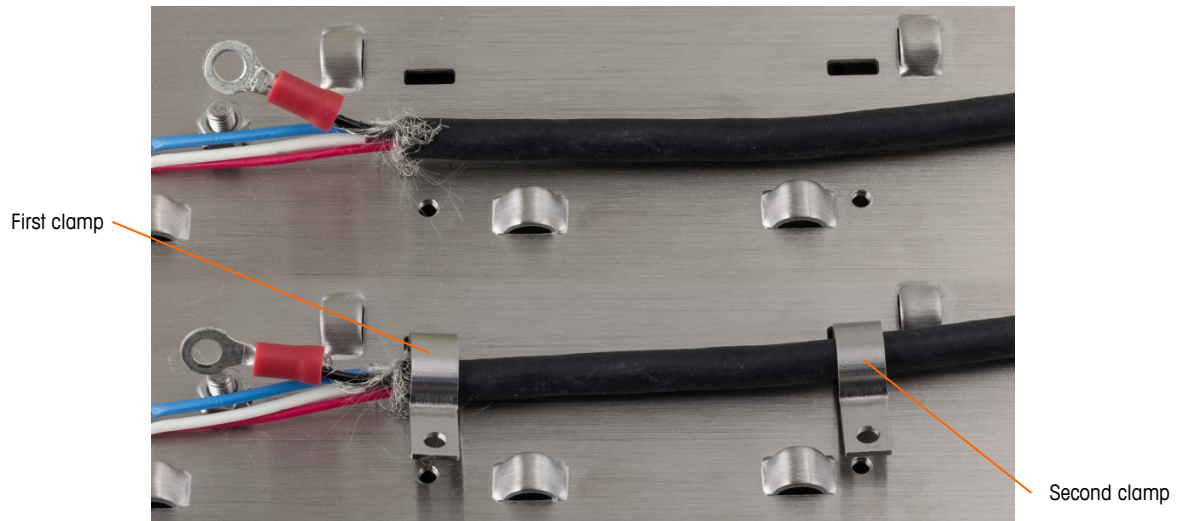

Figure A-79: Securing the PowerMount Cable – Panel
5. Place the cable in position for clamping, as shown in Figure A-79. The folded shield wires must be positioned under the first clamp to form a ground connection to the terminal chassis.